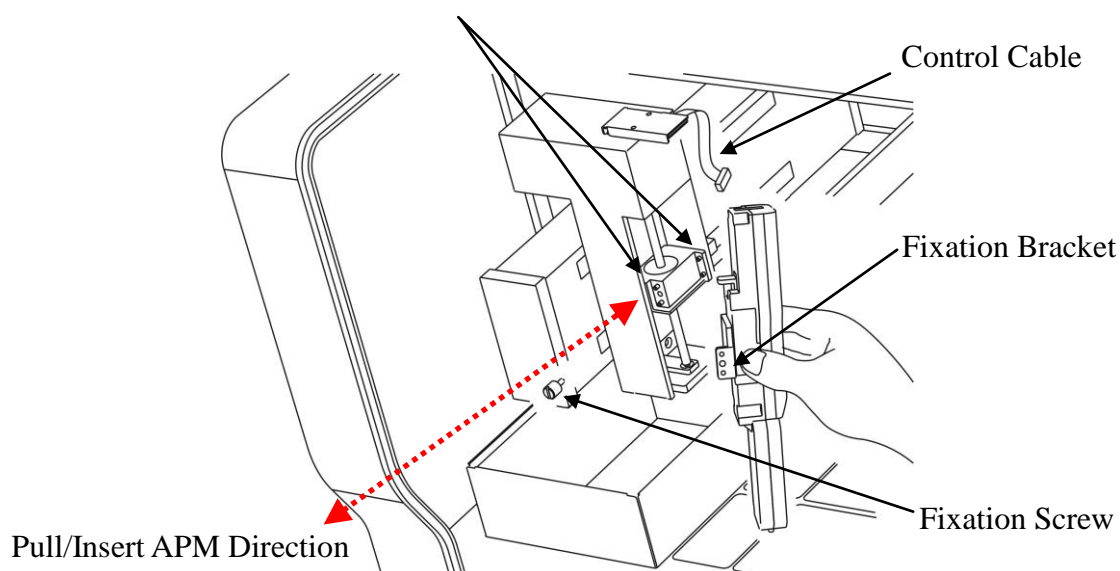

Figure 7. APM Installation and Removal
2. Unscrew the APM Fixation Screw (Please see Figure 7).